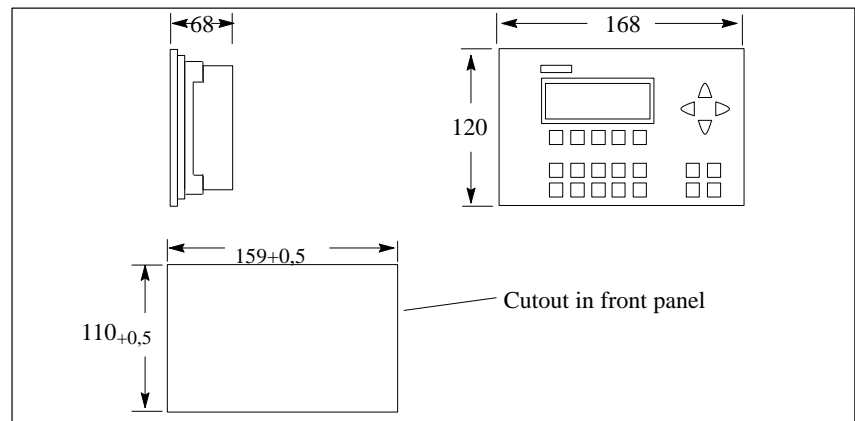

Figure 2-2 Dimension Drawings for the C7
1.	Cut out a section of the switching panel as shown in Figure 2-2.